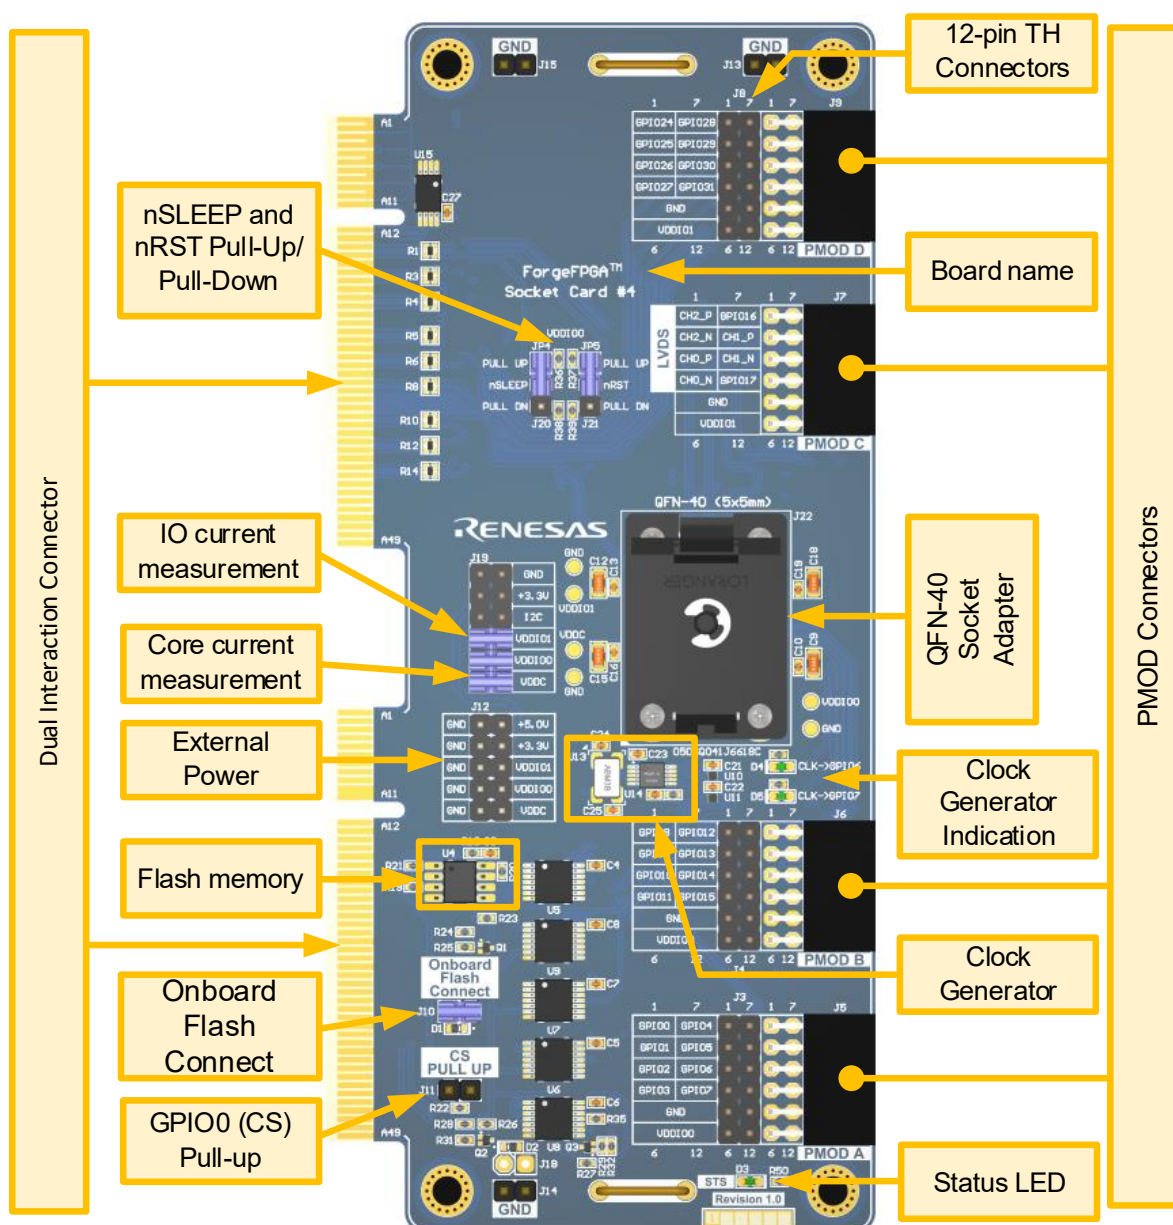

Figure 2. ForgeFPGA Socket Card #4 Components
| Figure 2. ForgeFPGA Socket Card #4 Components           | 3 |
**Figure 2** shows the board view and identifies its main components. This board can be used in conjunction with the Go Configure Development Board using the Dual Interaction Connector to transmit and process signals. It can also operate as a standalone unit. The chip can be powered either by the development board or through the External Power connector, and signals on the GPIO are accessible through the 12-pin GPIO connectors or PMOD connectors.